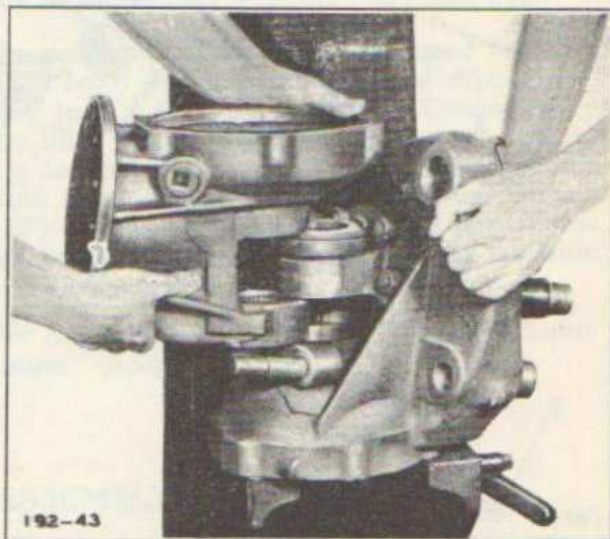

Fig. 36—Separating Housings at Knuckle
Remove housing (54) from knuckle (66) and housing (55) assembly. (See Figure 36). Remove metal grease seal spring washers (56).